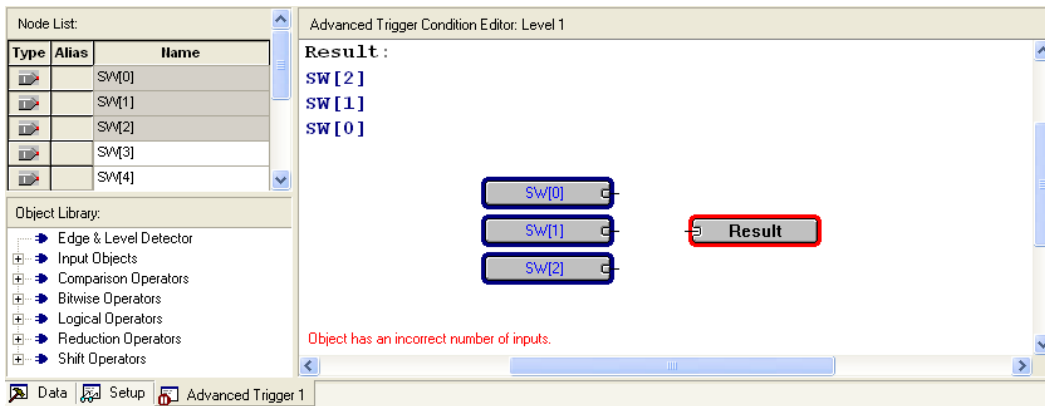

Figure 18. The three input nodes of interest dragged into the Advanced Trigger Editing Window.
- In the node list section of this window, highlight the 3 nodes SW[0] to SW[2], and click and drag them into the white space of the Advanced trigger window, resulting in Figure 18. Note that you can also drag and drop each node individually.